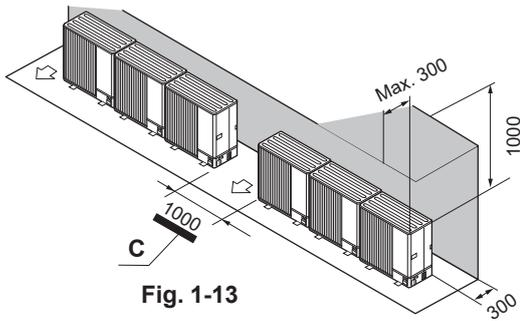

Fig. 1-13
- (2) Obstructions or closed surfaces at rear and above only (Fig. 1-13)
- C: Space (Fig. 1-13)